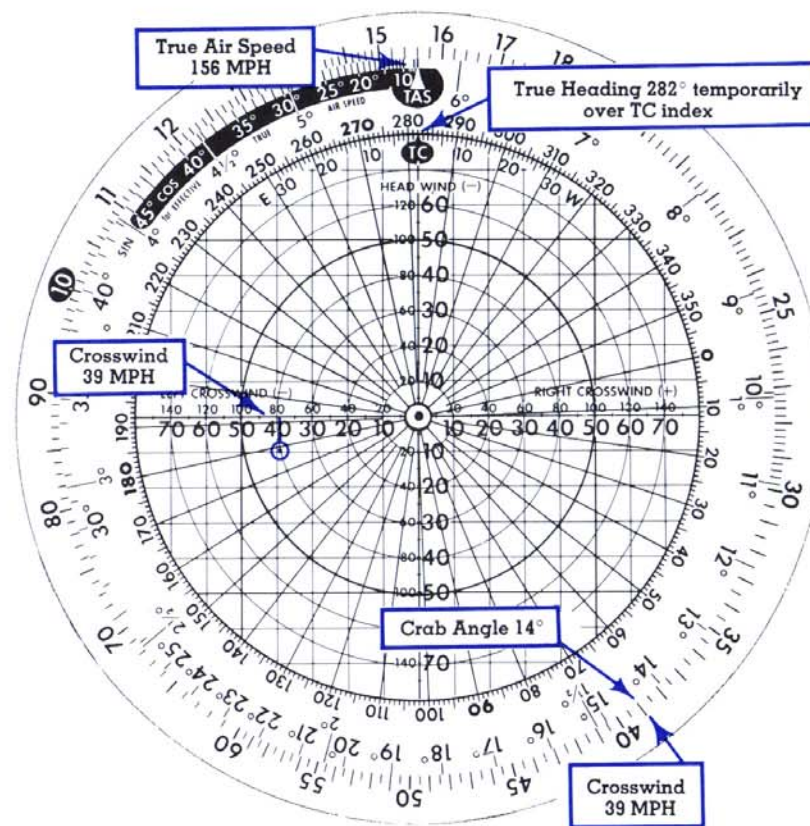

Fig. 31
**Solution:** (See Figures 31 and 32)